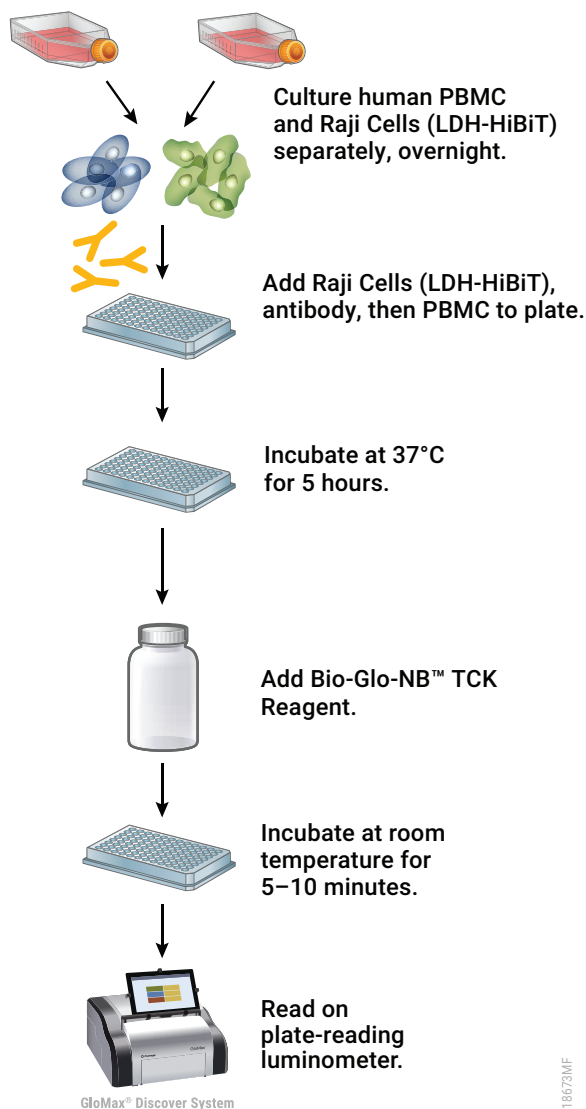

Figure 7. Schematic protocol for the Raji (LDH-HiBiT) TCK Bioassay, Propagation Model in a PBMC ADCC assay application.
3. Using a multichannel pipette, 25 μ l of the appropriate antibody dilution to wells B3–G10 of the assay plate according to Figure 7. Add 25 μ l of PBMC ADCC assay buffer to SR control wells (B2–G2). Add 25 μ l of PBMC ADCC assay buffer plus 300 μ g/ml digitonin to MR control wells (B11–G11).